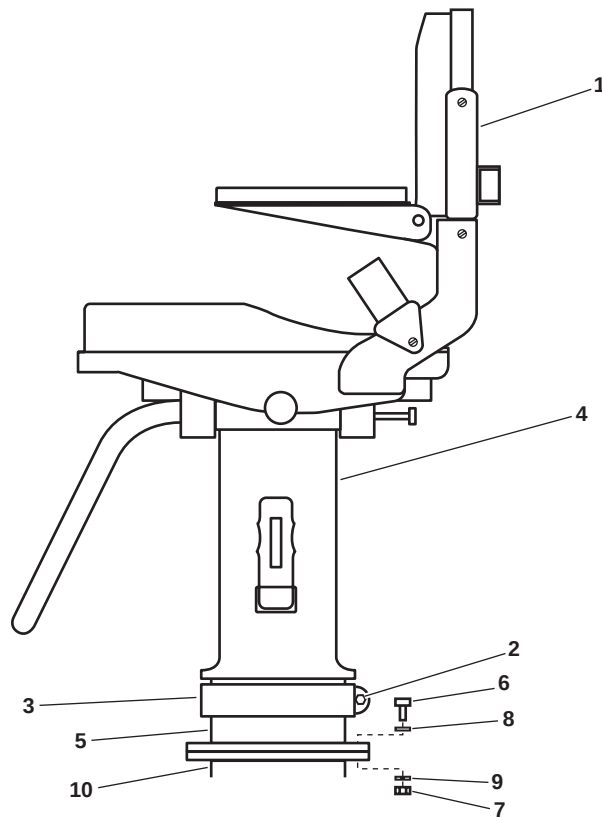

Figure 7. Navigator's Seat
1. Position one crewmember to hold the navigator's seat (figure 7, item 1).
2. While holding the navigator's seat (figure 7, item 1), loosen the nut (figure 7, item 2) and remove the clamp (figure 7, item 3).
3. Lift the navigator's seat (figure 7, item 1) and pedestal (figure 7, item 4) from the base (figure 7, item 5) as an assembly.
4. Remove the four bolts (figure 7, item 6), four nuts (figure 7, item 7), four flat washers (figure 7, item 8), and four lockwashers (figure 7, item 9). Remove the base (figure 7, item 5) from the foundation (figure 7, item 10) and discard the lockwashers.
1. Position the base (figure 7, item 5) on the foundation (figure 7, item 10) and secure it with our bolts (figure 7, item 6), four nuts (figure 7, item 7), four flat washers (figure 7, item 8), and four new lockwashers (figure 7, item 9).
2. Position the navigator's seat (figure 7, item 1) and pedestal (figure 7, item 4) on the base (figure 7, item 5) as an assembly.
3. While one crewmember supports the navigator's seat (figure 7, item 1), the second crewmember installs the clamp (figure 7, item 3) and tightens the nut (figure 7, item 2).